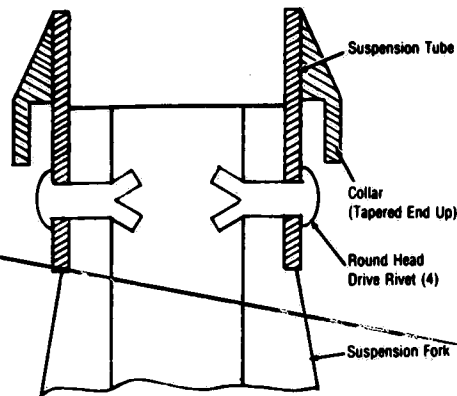

Figure 4-5. PROPER RIVET INSTALLATION.
b. Raise the lighthead assembly and guide the suspension fork onto the vertical suspension tube (Fig. 4-5) while feeding the supply wires through the access opening in the fork.